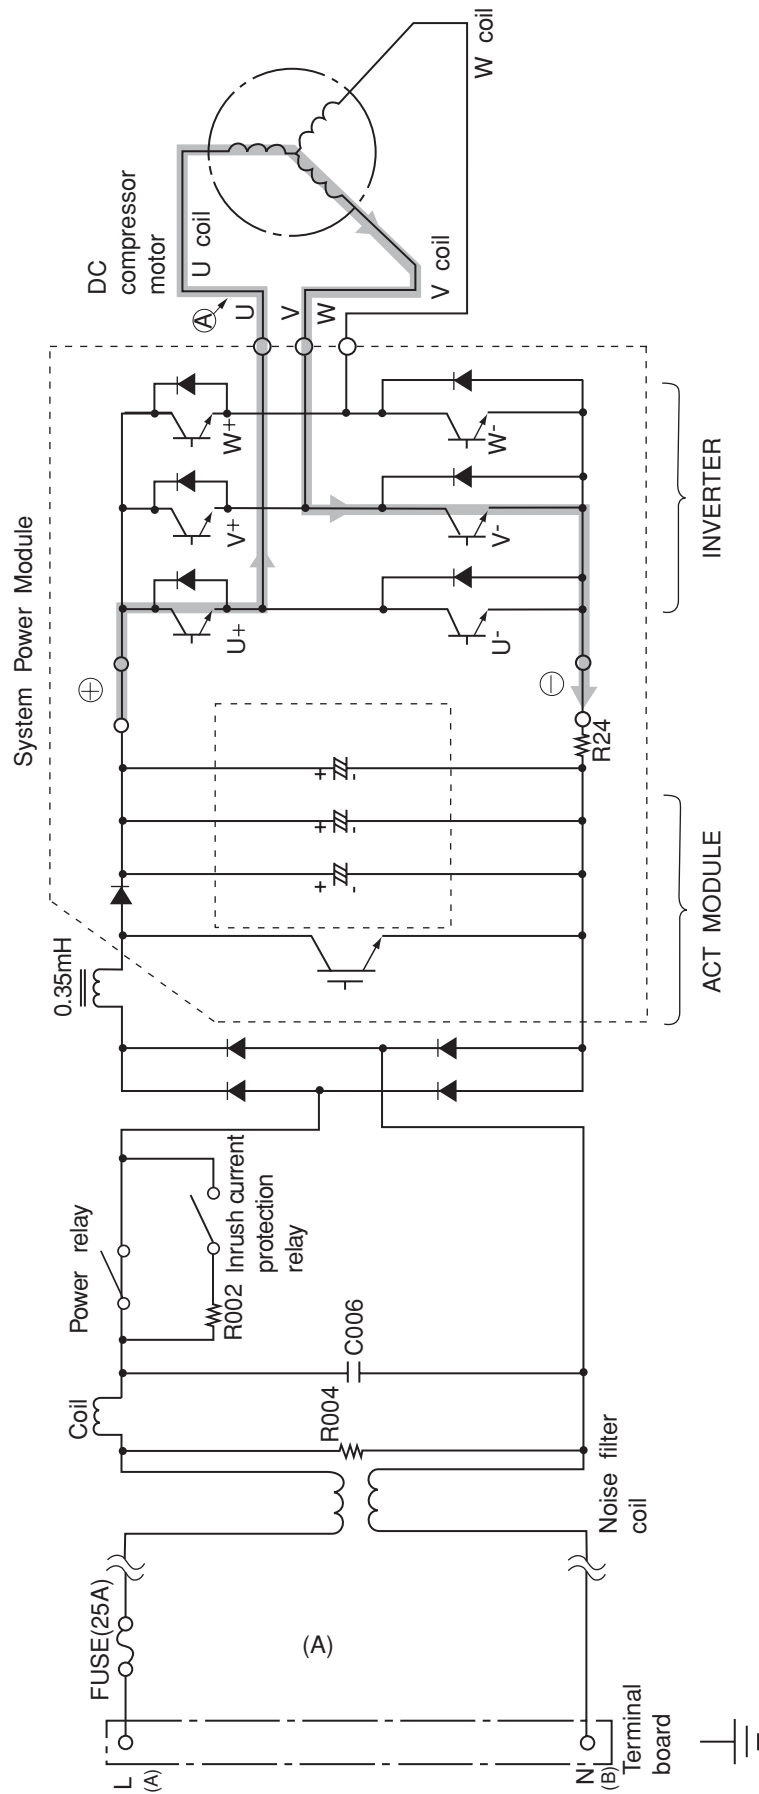
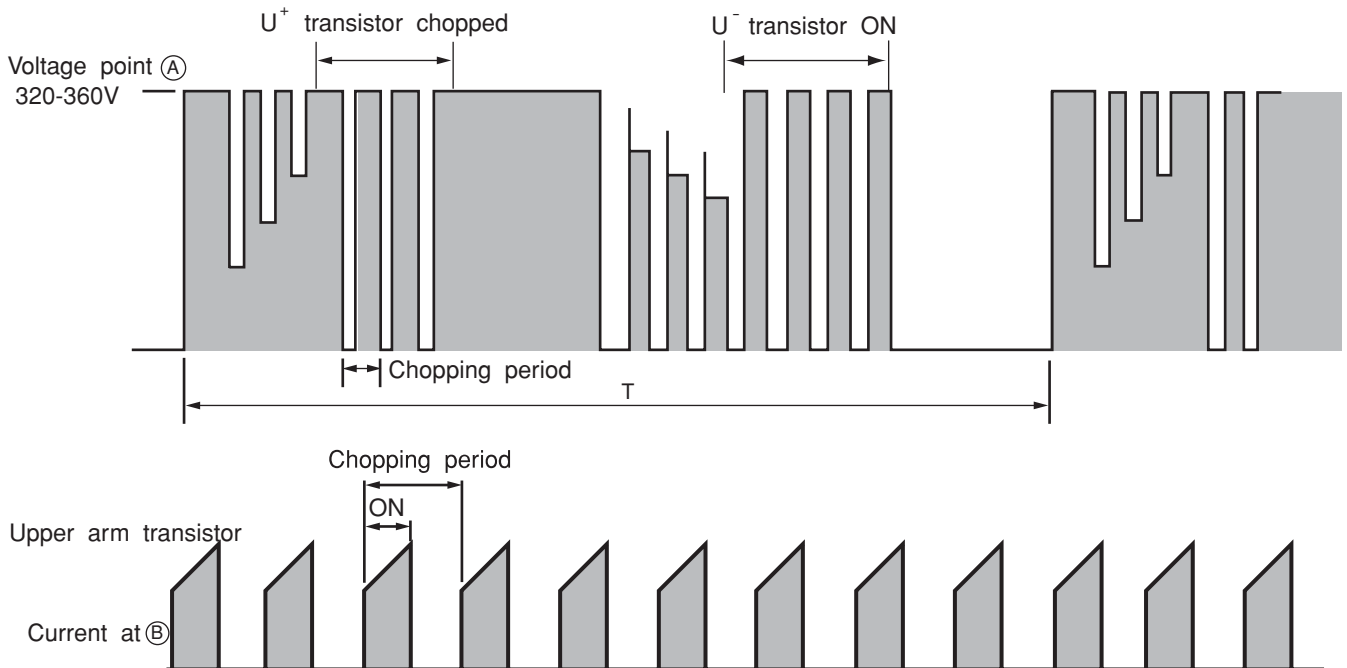

Fig. 3-1 System power module circuit (U⁺ is ON, V⁻ is ON)
Fig. 3-3 Voltage waveform at each point
- Fig. 3-1 shows the system power module and its peripheral circuits. (Current ACT module and power module are combined into one unit.) The three transistors on the positive ⊕ side are called the upper arm, and the three transistors on the negative ⊖ side, the lower arm.
※ At point E: U⁺ is ON, V⁻ is ON (circuit in Fig. 3-1)
- Fig. 3-3 shows voltage / current waveform at each point shown in Figs. 3-1 and 3-4. First half of upper arm is chopper, second half is ON, and first half of lower arm is chopper, second half is ON.
- (1) When U⁺ transistor is ON: U⁺ transistor → U coil → V coil → V⁻ transistor → DC current detection resistor → Point ㊸ (Fig. 3-1)
- Since current flows at point ② only when U⁺ transistor and V⁻ transistor is ON, the current waveform at point ② becomes intermittent waveform as shown in Fig. 3-3. Since current at point ② is approximately proportional to the input current of the air conditioner, input current is controlled by using DC current (Id) detection resistor.